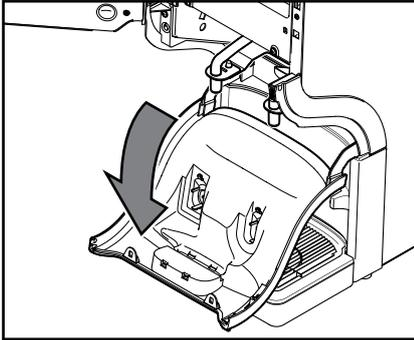

Fig. 26
- b. Pull the outlet cover down (fig. 26).